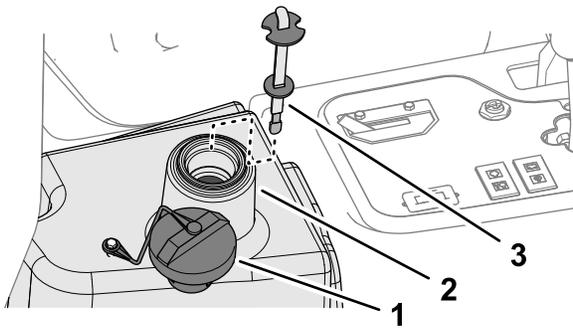

Figure 93
2. Clean the area around the filler neck and cap of the hydraulic-fluid tank (Figure 93) and remove the cap.